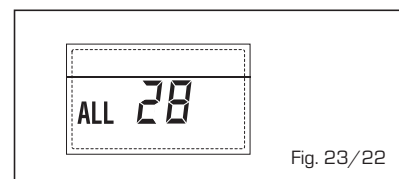

Fig. 23/22
- NUMBER OF BOARD CONNECTED ERROR "ALL 29" (fig. 23/u)